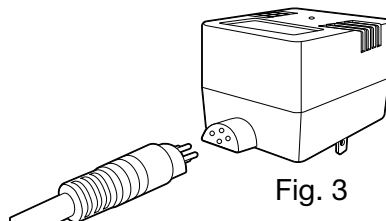

Fig. 3
8. Attach the ballast to the power cord. Use care to align the 4-pin plug properly. DO NOT FORCE. The 4-pin plug was designed to fit in only one orientation (Fig. 3).